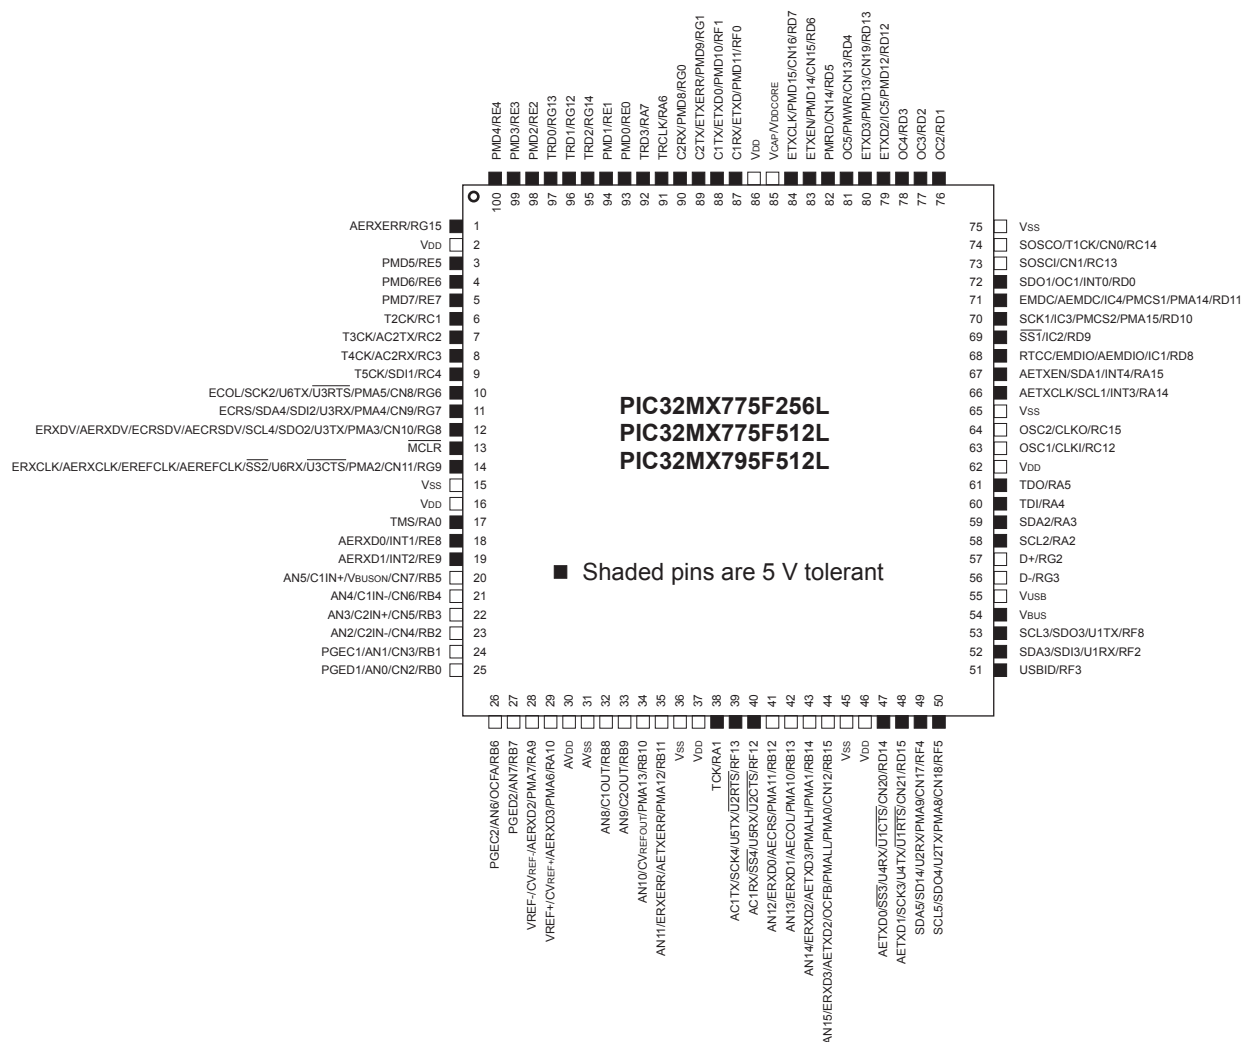

Figure 2.1: The pinout of the PIC32MX795F512L used on the NU32.
To cram so much functionality into only 100 pins, many pins serve multiple functions. See the pinout diagram for the PIC32MX795F512L (Figure 2.1). As an example, pin 21 can be an analog input, a comparator input, a change notification input (which can generate an interrupt when an input changes state), or a digital input or output.
For example, pin 78 in Figure 2.1 can serve as OC4 (output compare 4) or RD3 (digital I/O number 3 on port D). Let's say we want to use it as a digital output. We can modify the SFRs that control this pin to disable the OC4 function and to choose the RD3 function as digital output instead of digital input. The PIC32MX5xx/6xx/7xx Data Sheet explains the memory addresses and meanings of the SFRs. Be careful, because it includes information for many different PIC32 models. Looking at the data sheet section on Output Compare reveals that the 32-bit SFR named "OC4CON" determines whether OC4 is enabled. Specifically, for bits numbered 0 . . . 31, we see that bit 15 is responsible for enabling or disabling OC4. We refer to this bit as OC4CON<15>. If it is cleared (0), OC4 is disabled, and if it is set (1), OC4 is enabled. So we clear this bit to 0. (Bits can be "cleared to 0" or simply "cleared," or "set to 1" or simply "set.") Now, referring to the I/O Ports section of the Data Sheet, we see that the input/output direction of Port D is controlled by the SFR TRISD, and bits 0-15 correspond to RD0-15. Bit 3 of the SFR TRISD, i.e., TRISD<3>, should be cleared to 0 to make RD3 (pin 78) a digital output.
Digital Input and Output A digital I/O pin configured as an input can be used to detect whether the input voltage is low or high. On the NU32, the PIC32 is powered by 3.3 V, so voltages close to 0 V are considered low and those close to 3.3 V are considered high. Some input pins can tolerate up to 5.5 V, while voltages over 3.3 V on other pins could damage the PIC32 (see Figure 2.1 for the pins that can tolerate 5.5 V).